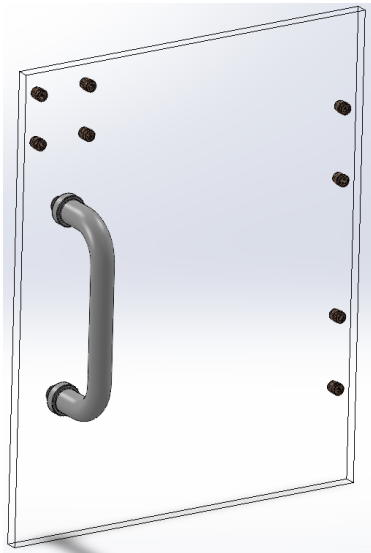

Fig. 17. Pull handle installed on the acrylic door.
1. Screw the pull handle onto the outer side of the door using the M5 screws, see Fig. 17.